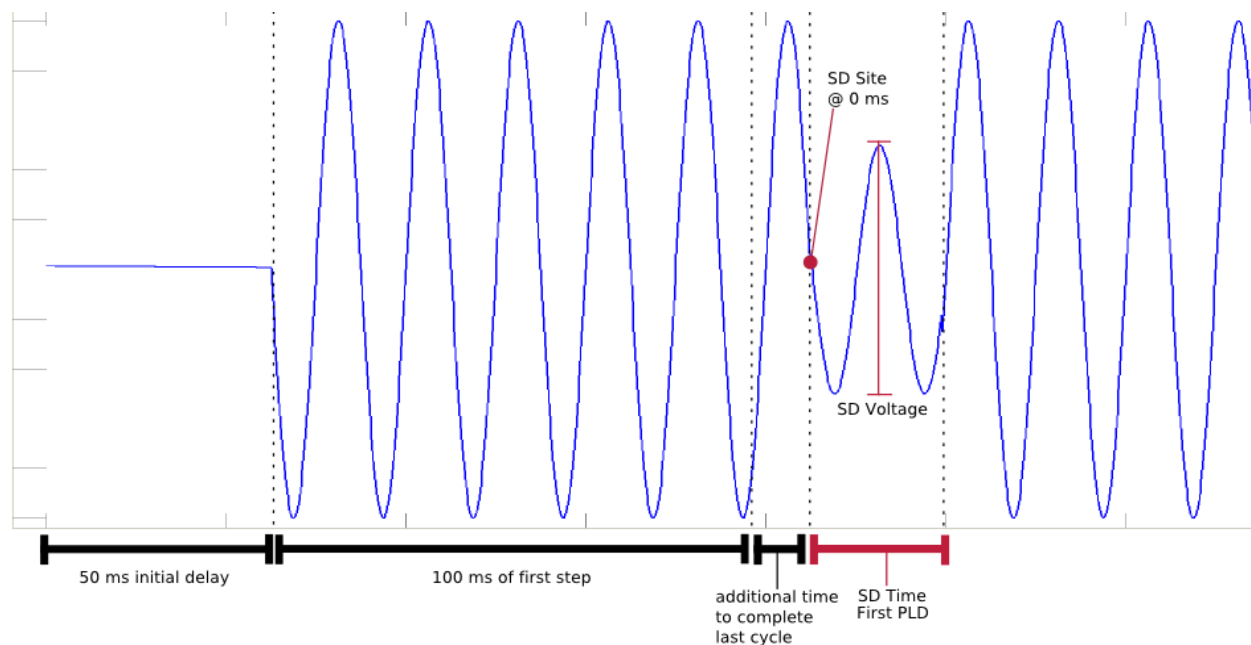

Figure 25 – Initial Start of a List
**SD Site** – This parameter defines the time location (with reference to the beginning of a period of the output) in which to output the PLD. Figure 25 above shows the output of the first step of a list with SD Site set to 0.0 ms.